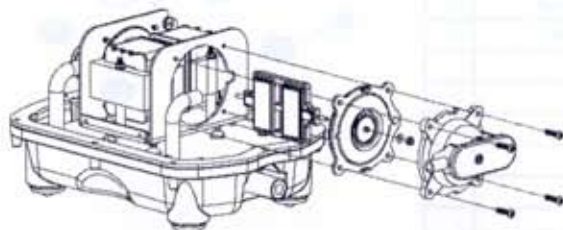

figure 3
2. Loosen the four screws and disassemble the parts. (As shown in figure 3)